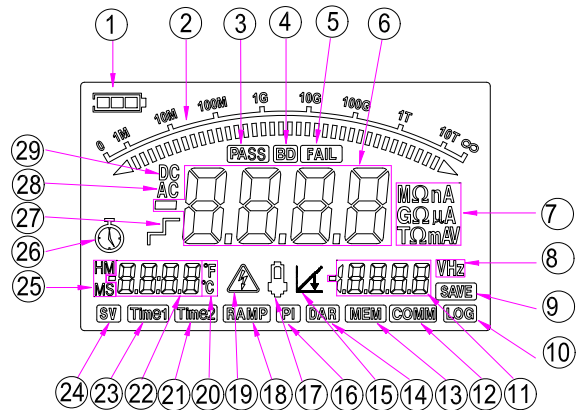

Figure 3
**5.3 LCD display (As shown in Figure 3)**